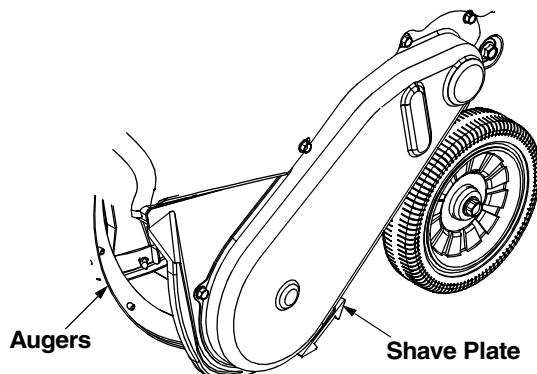

Figure 8
- To check the adjustment of the shave plate, place the unit on a level surface. See Figure 8. The wheels, shave plate and augers should all contact level surface. Note that if the shave plate is adjusted too high, snow may blow under the housing. If the shave plate wears out excessively, or the unit does not self-propel, the shave plate may be too low and needs to be adjusted.